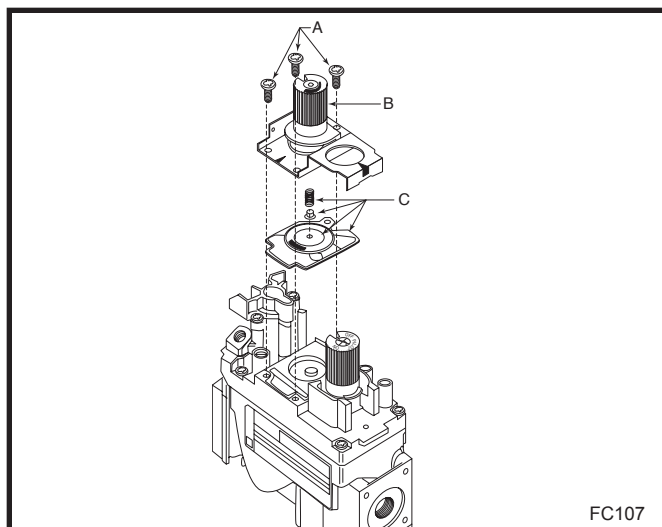

Fig. 60 Remove mounting screws, pressure regulator tower and spring and diaphragm assembly.
1. Using the TORX T20 bit, remove and discard the three (3) pressure regulator mounting screws (A), pressure regulator tower (B) and the spring and diaphragm assembly (C). (Fig. 60)